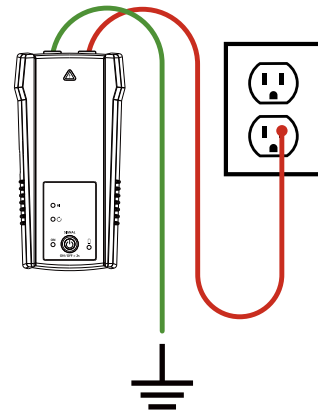

Figure 3.1a: Proper connection with separate ground
2. Using provided test leads accessories, connect the red test lead to the wire being traced, Energized or De-energized. For receptacles, make sure to connect the test lead to the line (hot) wire. For Energized systems the signal will ONLY be transmitted between the load-side to which the Transmitter is connected and the source of power (see Figure 3.1a).